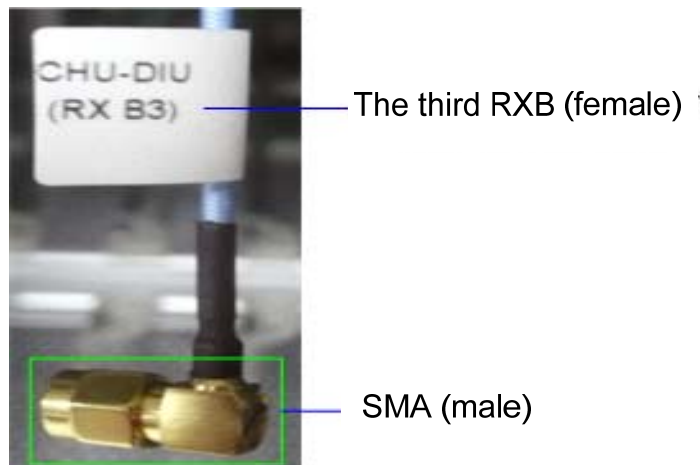

Figure 3-16 Cable Diagram
**Step 7** Connect all cables as shown in Figure 3-16.